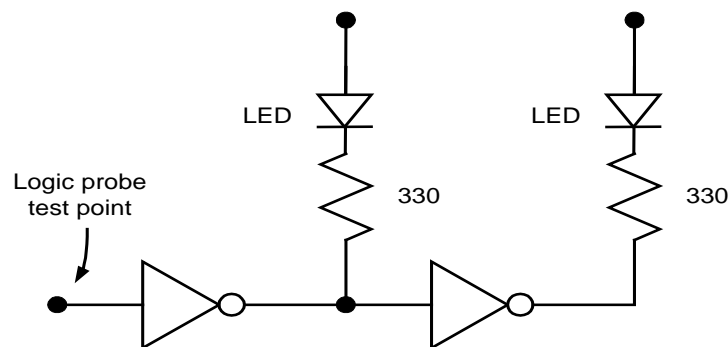

Fig. 9.8. A two-LED circuit to indicate if the test point is at logic 1 or logic 0.
When working with logic circuits it is useful to have a visual indication of the high or low state of a logic signal. A device used to do this is called a **logic probe**. You can make a circuit that works like a logic probe, as shown in Fig. 9.8.
1) Toward one end of the breadboard build the circuit shown in Fig. 9.8. Look up the TTL part number for the hex NOT gate IC at the end of this lab experiment. This will show you the purpose of each pin of the DIP. Note which pin should be connected to +5 volts and which pin should be connected to ground. Insert the IC into the breadboard, and wire in the LEDs and resistors. **What are the LED states when the test point is connected to ground? What are the LED states when the test point is connected to +5 volts? Like in Fig. 9.8, provide a drawing of your circuit in your report. Label the LEDs as LED0 and LED1 to signify which LED is on when the test point is 0 volts (logic 0).**